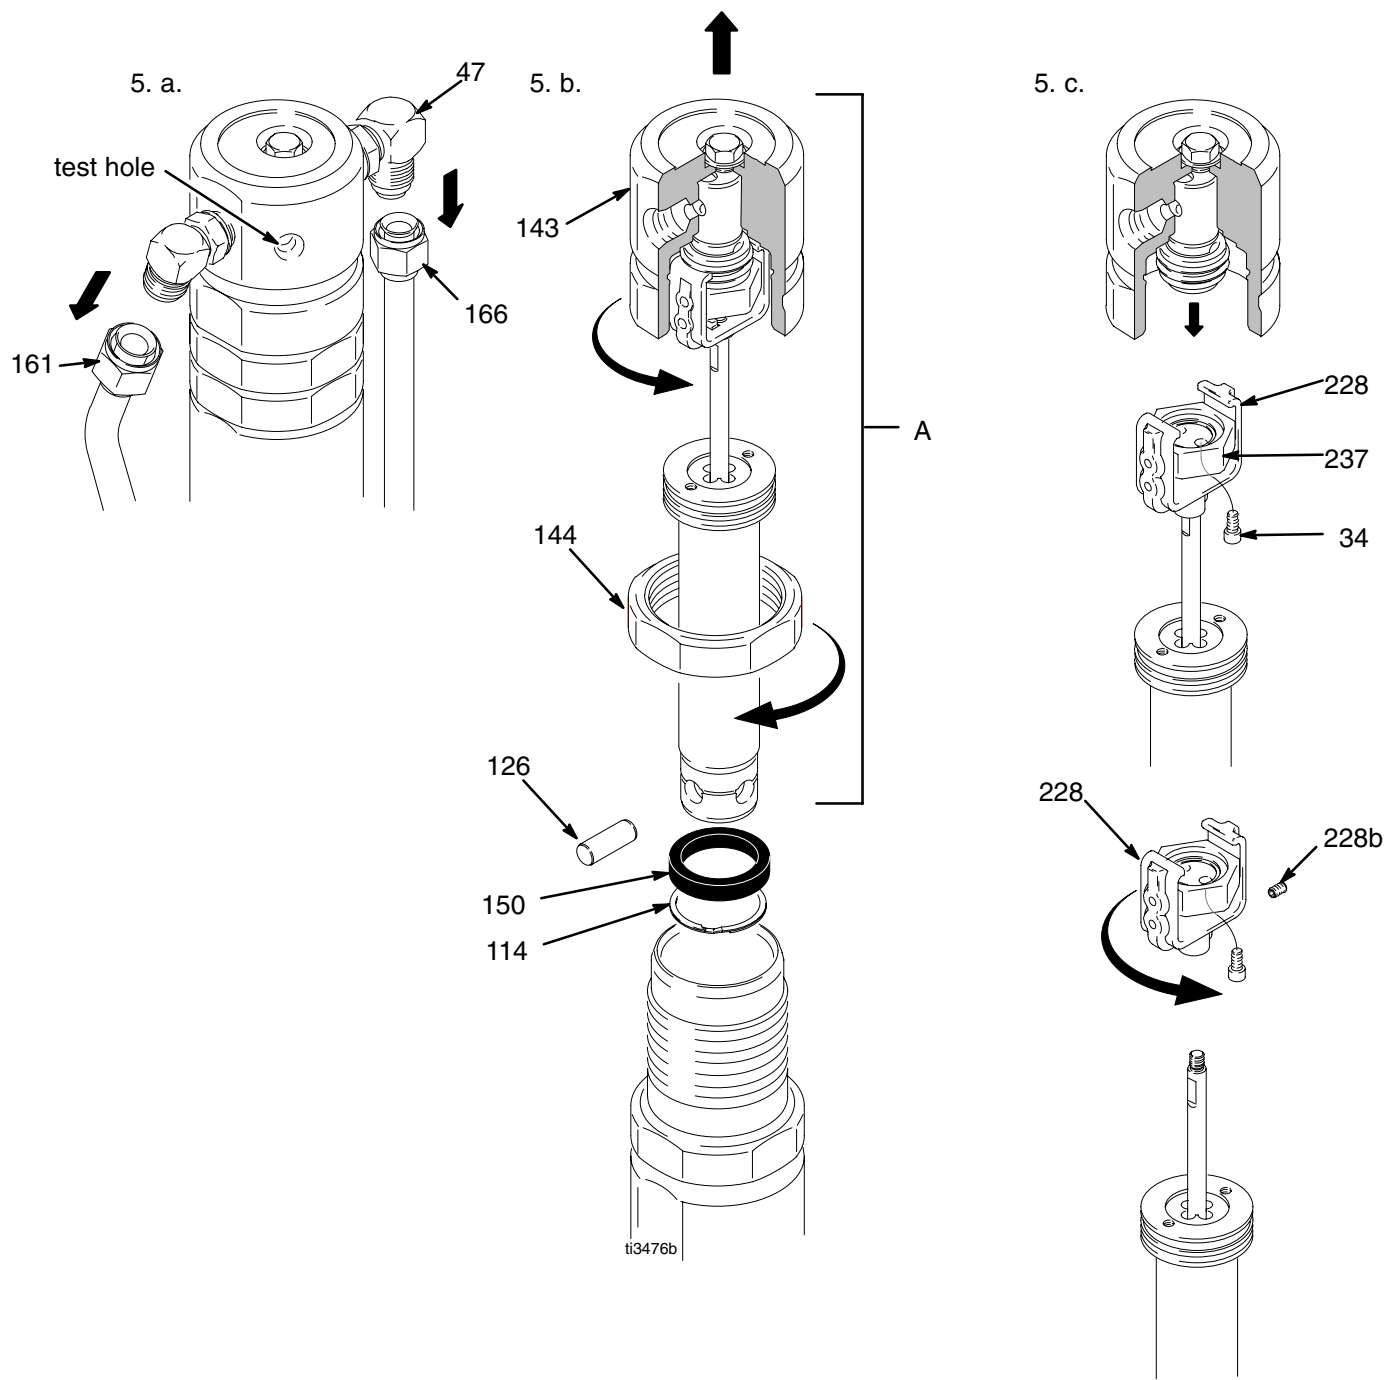

Fig. 7
4. Fig. 7. Slide retainer clip (114) and magnet ring (150) down to remove. Remove pump pin (126).
5. Remove hydraulic lines (161, 166) from fittings (47) at top left and right side of hydraulic motor.
6. Loosen jam nut (144).
7. Unscrew and remove hydraulic motor cap (143).
8. Slide piston rod/hydraulic motor cap assembly (A) from hydraulic motor cylinder.
9. Remove yoke (228).
- b. Use shortened Allen wrench to remove two screws (34) from spring retainer (237). Remove yoke, spring retainer, piston and trip rod assembly from hydraulic motor cap.
- b. Fig. 7. Put hydraulic motor cap (143) in vise.
- c. Install yoke, spring retainer, piston and trip rod assembly in hydraulic motor cap. Use shortened Allen wrench to install two screws (34) in spring retainer to secure piston rod assembly to hydraulic motor cap.
2. Slide piston rod assembly (A) into hydraulic motor cylinder.
3. Screw down hydraulic motor cap (143) until cap bottoms out. Unscrew hydraulic motor cap until inlet and outlet align with hydraulic line fittings and test hole in hydraulic motor cap points toward belt guard (223).
4. Torque jam nut (144) against hydraulic motor cap (143) to 150 ft-lb (17 N·m).
5. Install hydraulic lines (161, 166) to fittings (47) to top left and right side of hydraulic motor per procedure on page 7; torque to 40 ft-lb (54.2 N·m).
6. Pull start rope slowly to align pin holes of hydraulic motor and displacement pump (111). Connect with pump pin (126); install retainer clip (114), page 24.